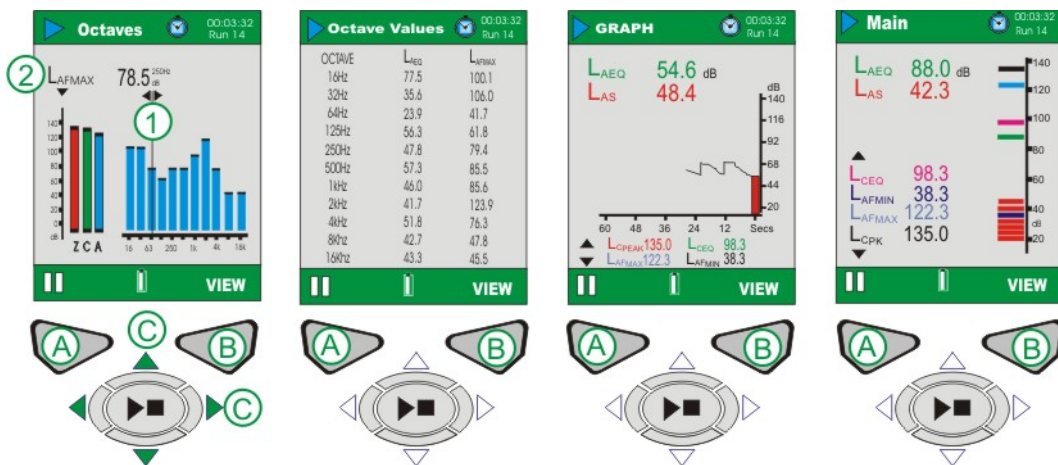

Figure 14 CEL-620B Main Run Screens
CEL-620B (Refer to Figure 14).
The CEL-620B provides two additional octave screens shown in Figure 14. Use the View key (B) to toggle the four available screens. Use the left/right cursor keys (C) to move across the frequency bands (1) when in graphical view. Use up/down cursor keys (C) to toggle between LMAX and LEQ parameters (2).